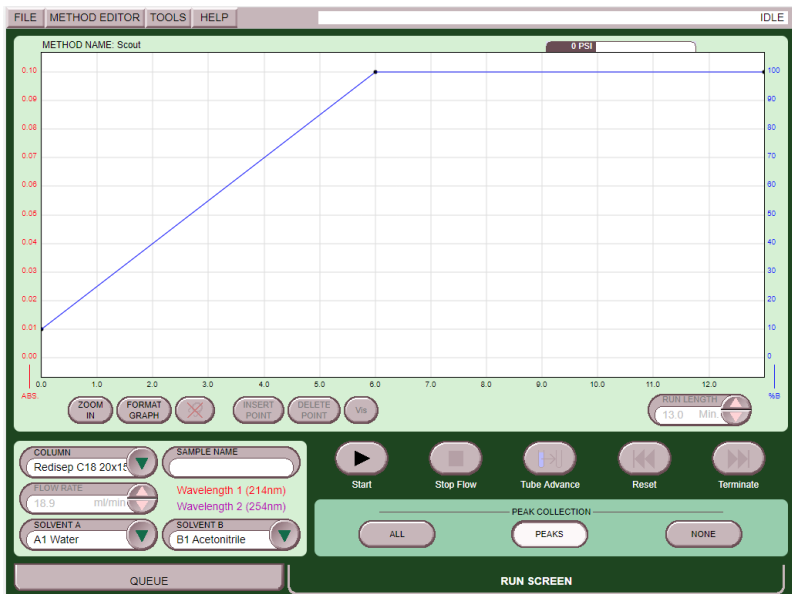

Figure 2-6 Scouting Run screen
4. Input your injection parameters as normal, and let the run proceed (Figure 2-6).